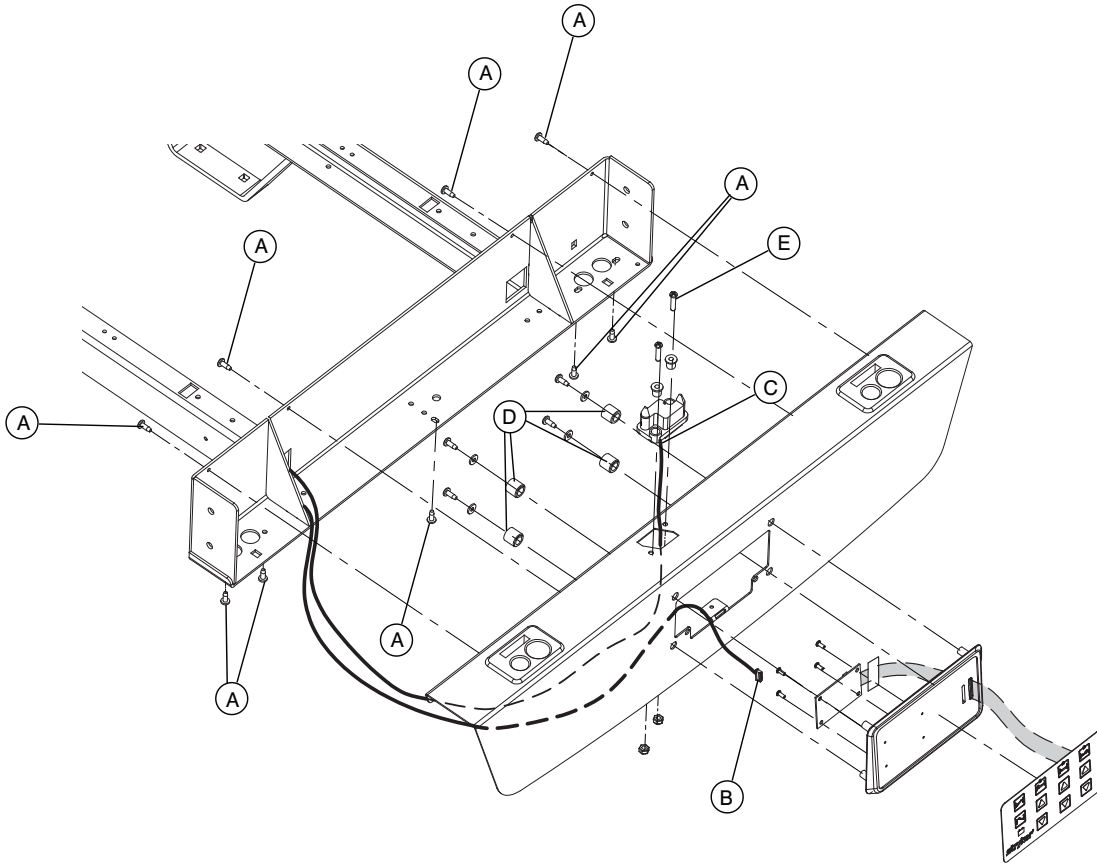

Figure 4.2 A, part 1
7. Using the #2 Phillips screwdriver, remove the 9 screws (A, Figure 4.2 A, pg. 41) holding the cover as well as the two I.V. poles to the foot box. Raise and remove the cover taking care to disconnect the electronic board first, the cable (B, Figure 4.2 A, pg. 41) of the control panel and, if applicable, the cable (C, Figure 4.2 A, pg. 41) of the connector from the foot box (optional).